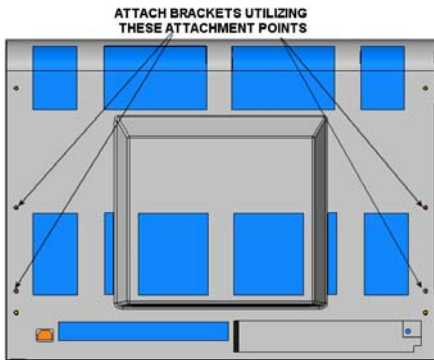

Figure 4
- Attach side brackets to screen using the M5 button head screws and the nylon spacers between the bracket and the screen (See Figures 4, 5, and 6). **Do not fully tighten until the center brackets have been attached.**